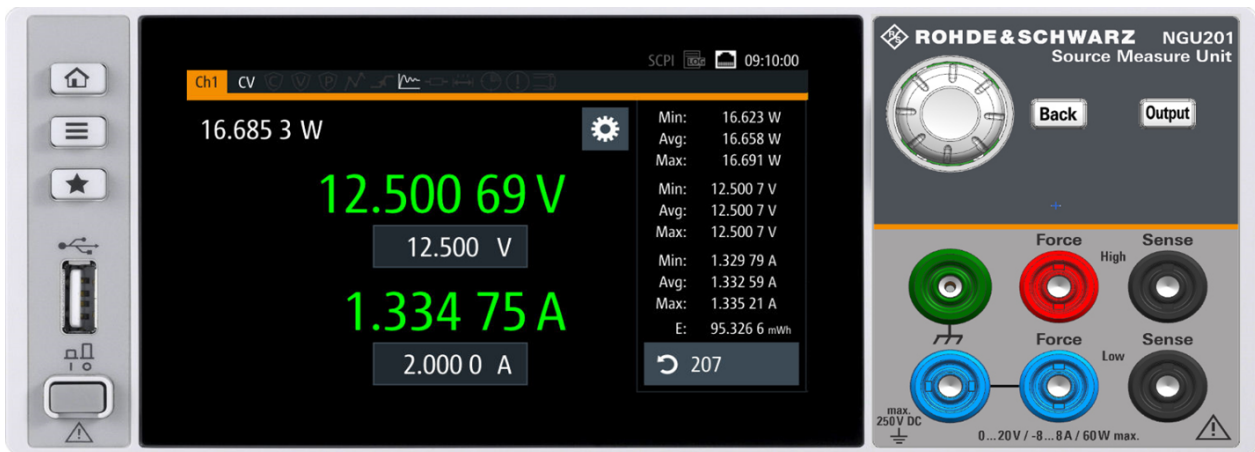

Figure 6-66: VNC client of respective instrument model
- "VNC Device Control": Displays the virtual instrument for operation. See Figure 6-66.